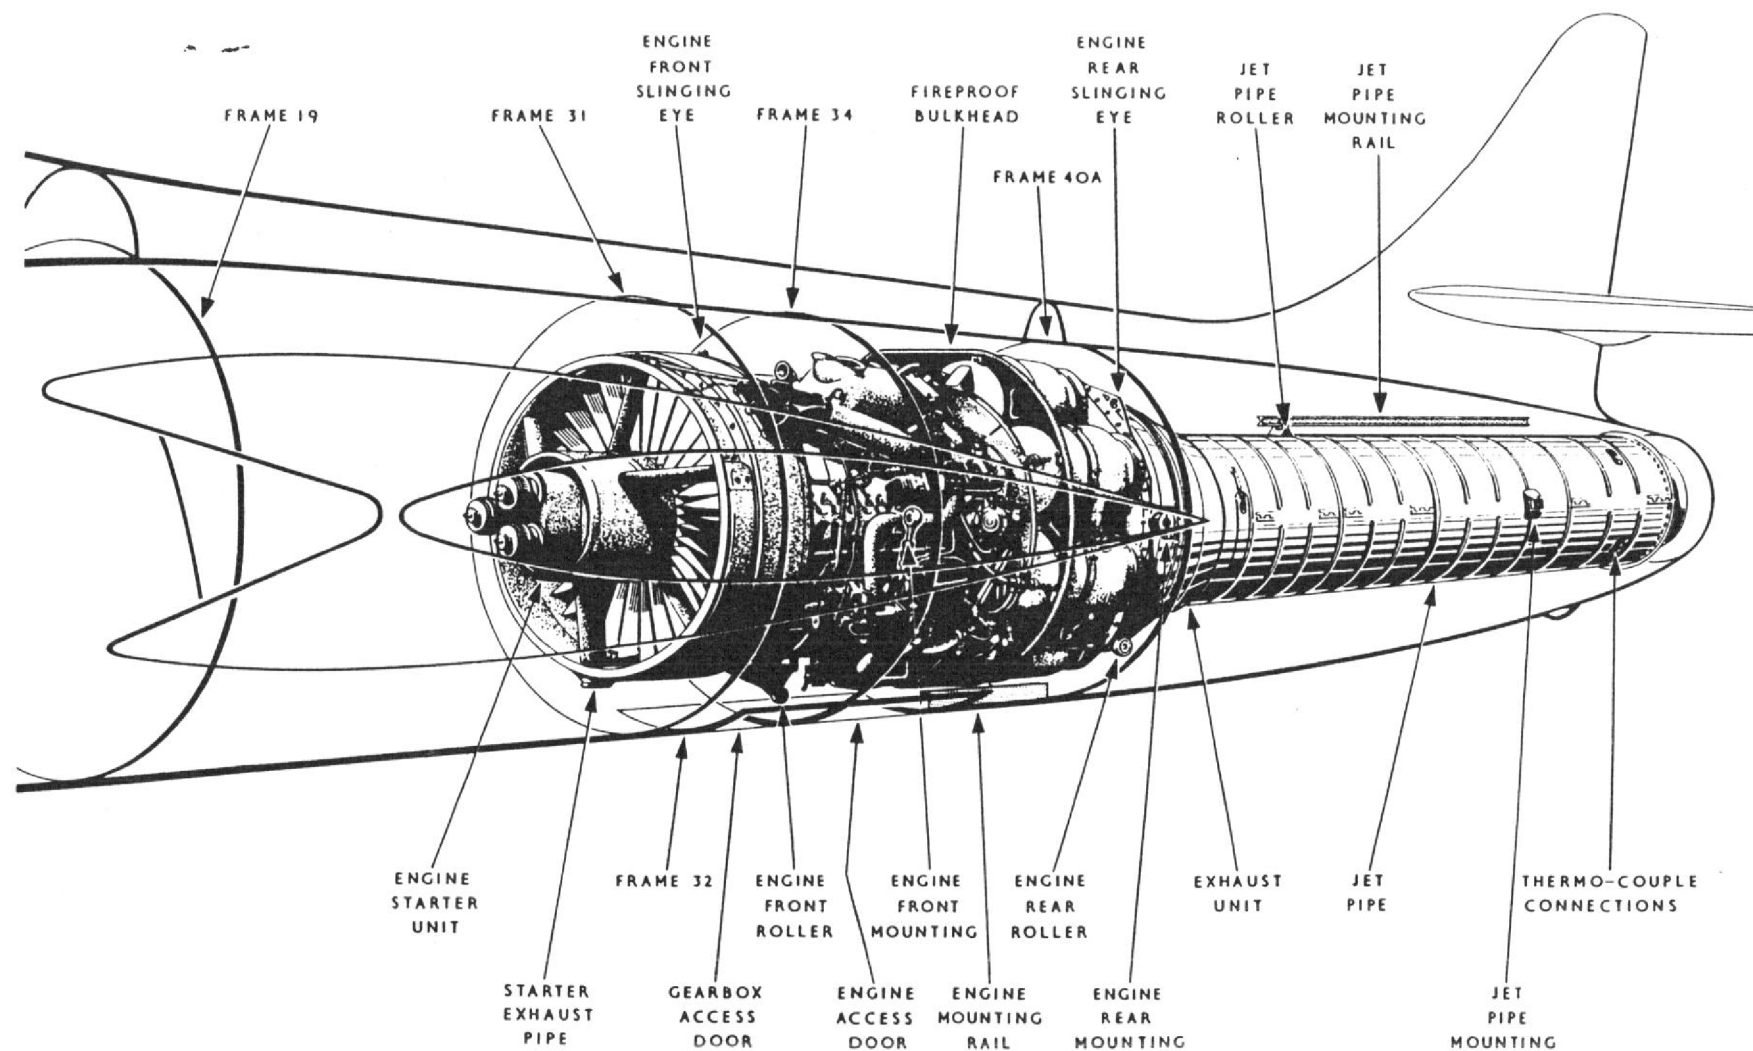

Fig.1. Engine installation
##### Engine mounting (fig. 1)
**Jet pipe (fig. 1)**